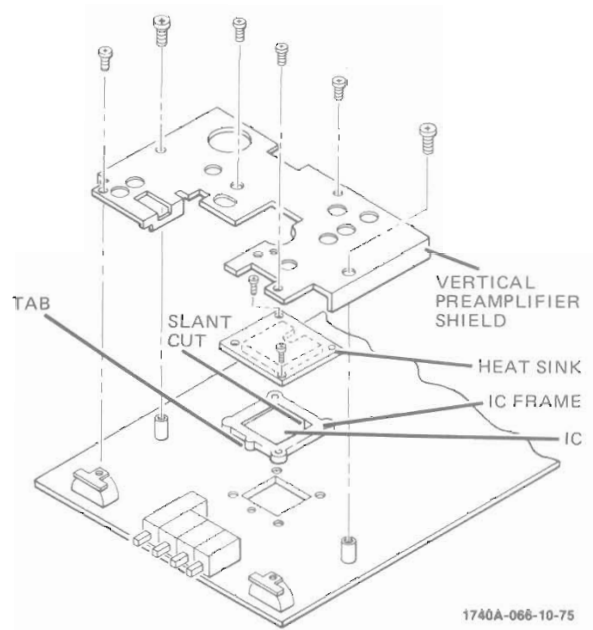

Figure 8-7. A3A1 Removal
8-23. Vertical Preamplifier IC A3A1 Removal and Replacement. To remove assembly A3A1, see figure 8-7 and proceed as follows:
- f. To reinstall IC, reverse removal procedure; be certain that orientation of parts is as shown in figure 8-7.